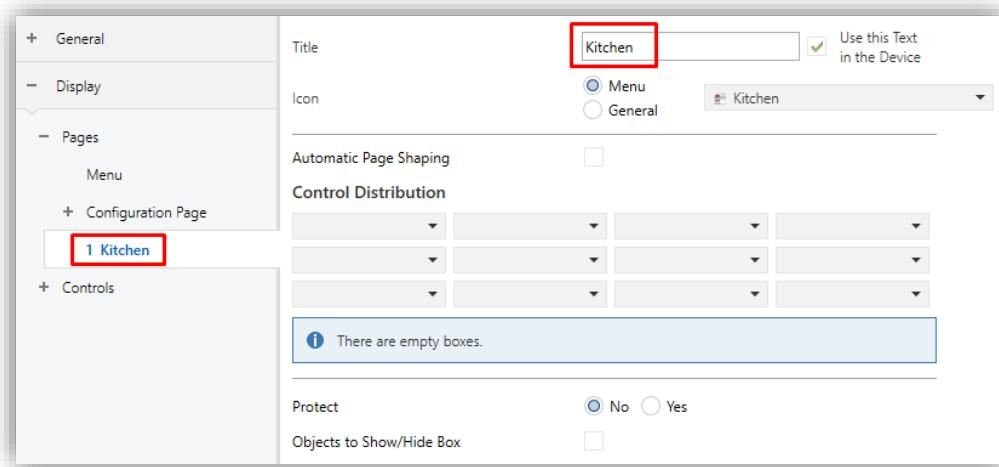

Figure 65. Configuration Page n
- **Title:** text field that identifies each of the enabled pages. In addition, this field allows changing the name of the tab in ETS left menu, as shown in the Figure 65.